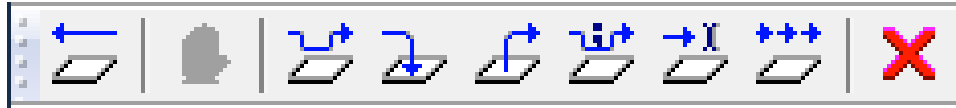

Figure 1.16: IAR debug toolbar.
17. Mouse over the Debug toolbar shown in Figure 1.16. The first icon should